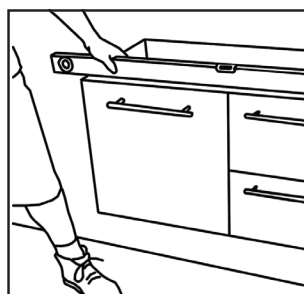

Fig.3
5. Check with spirit level that the vanity unit is completely level. (fig 3 and 4)